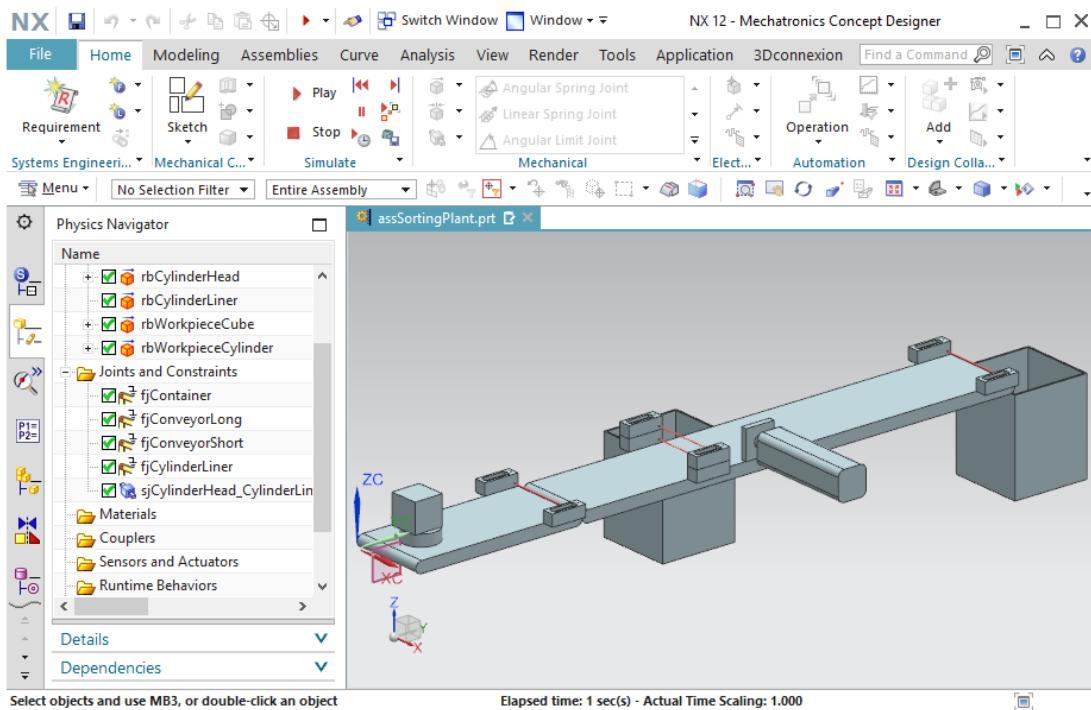

Figure 37: Simulation of the sliding joint in MCD
- Start a simulation again as described in Chapter 7.1, "Section: Starting and stopping a simulation in MCD". You can see that the head of the ejector does not leave its position and remains in the base of the ejector (see Figure 37). A controlled movement of the ejector head is to be implemented in the next step.